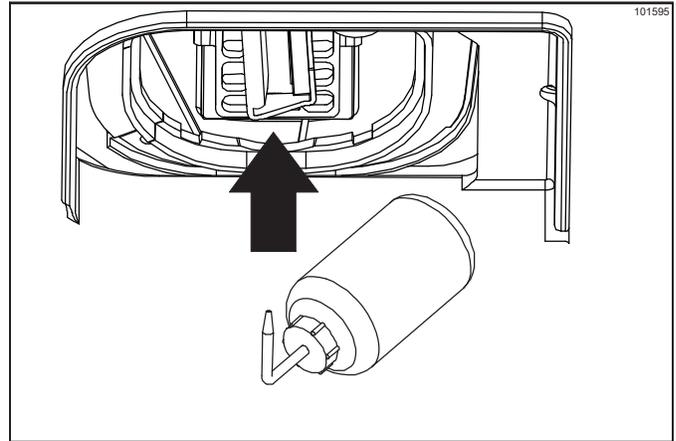

Figure 6-18
27. Using the squeeze bottle of cleaning/sanitizing solution, thoroughly flush the shaver assembly blade, dispensing tubes, and surrounding area. (See Figure 6-18.)
29. **For machines equipped with the Rinse Station:** Brush-clean the Rinse Station using the squeeze bottle of cleaning/sanitizing solution and the spout brush. Pay particular attention to the rinser head and the drain area. (See Figure 6-18.)